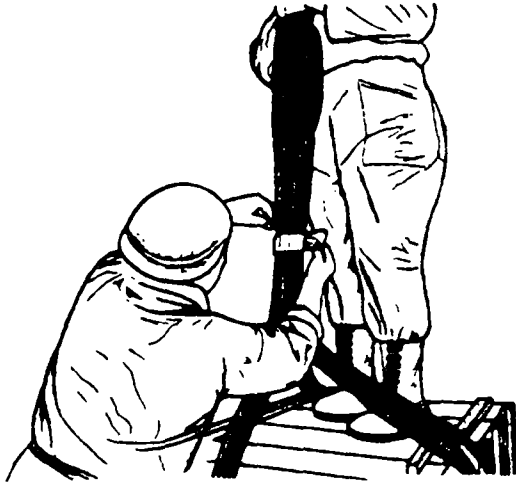

Figure 1-11. Taping Lifting Legs
Step 5 - All four sides of the net are now ready to be pulled up around the load. Begin by having the person on top of the load hold the apex up and another person tape or tie all 16 lifting legs together at 3- to 4-foot intervals until no more slack can be pulled up on the legs. If the load is small, you may have to tape or tie the net to together above the load. Tape or tie the legs and net so that the net does not snag on the load as the helicopter lifts the net (Figure 1-11). Use breakaway technique so that the tape or tie breaks after the slack is removed from the legs and net.